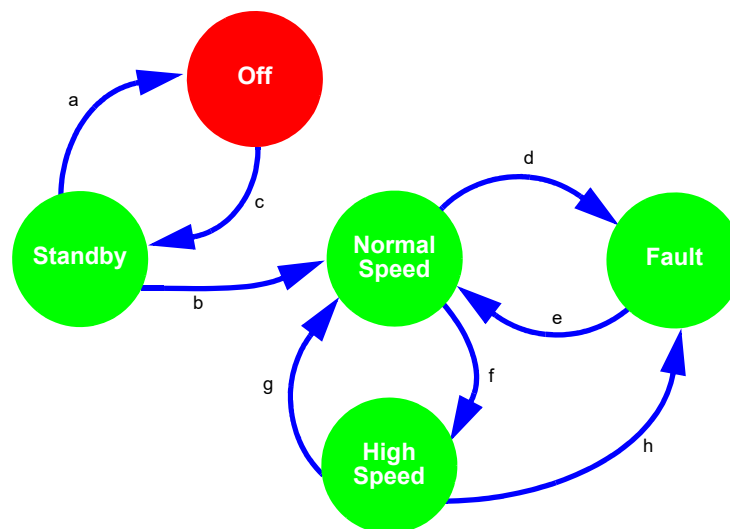

Figure 109: Asynchronous State Machine State Transitions
The Asynchronous State Machine macrocell is one of several macrocells in the Asynchronous State Machine Subsystem, and its specific role is to hold one active state at a time, and to facilitate user defined state transitions in a fast and power efficient manner. This macrocell is designed to allow the user to create state machines with between 2 to 12 states. When combined with the other macrocells in the ASM subsystem [four Dynamic Memory (DMx_x) macrocells, three Matrix Interface (MIx) macrocells, and one f(1) Computation Macrocell], the user has flexibility to define the available states, the available state transitions, and the input signals (a, b, c ...) that will cause transitions from one state to another state, as shown in the example in Figure 109.